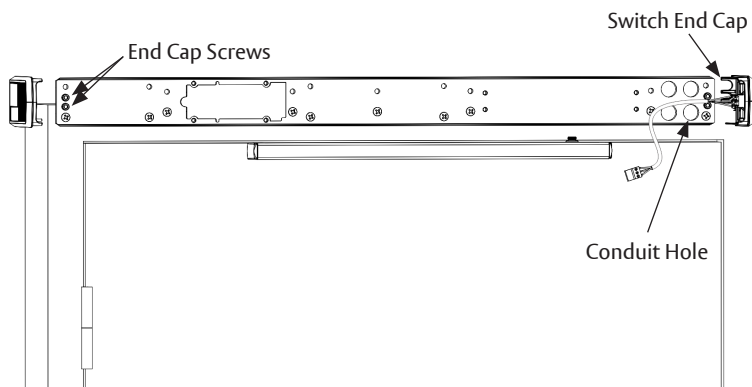

Figure 7
1. Install two (2) screws on each end of backplate leaving about 3/16" gap between head of screw and backplate. (Figure 7)
2. Slide end caps behind screw heads and tighten screws. (Figure 7)